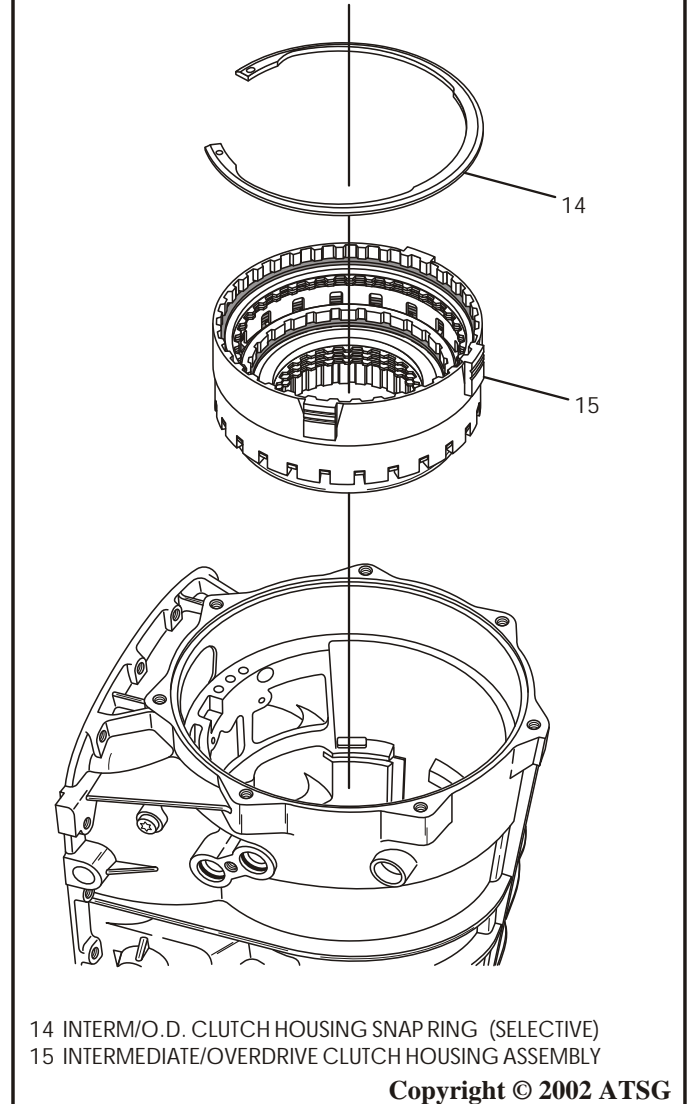

Figure 50
41. Remove the **"Selective"** snap ring retaining the overdrive clutch housing in the case, using the Snap Ring Pliers J-45126 (See Figure 50).
42. Use caution when removing or installing this snap ring, as the snap ring is very thick and very strong. Ensure that you have the J-45126 snap ring pliers engaged properly, as shown in Figure 50.
43. Remove the overdrive clutch housing from the case, as shown in Figure 50, and set aside for the component rebuild section.